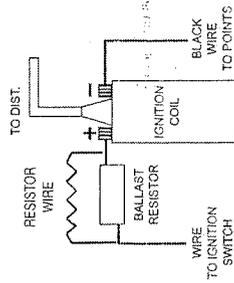

FIGURE 2
- For installations that do not use a primary ballast resistor, connect the Ignitor red wire to the positive (+) side of the ignition coil. (See Figure 2)